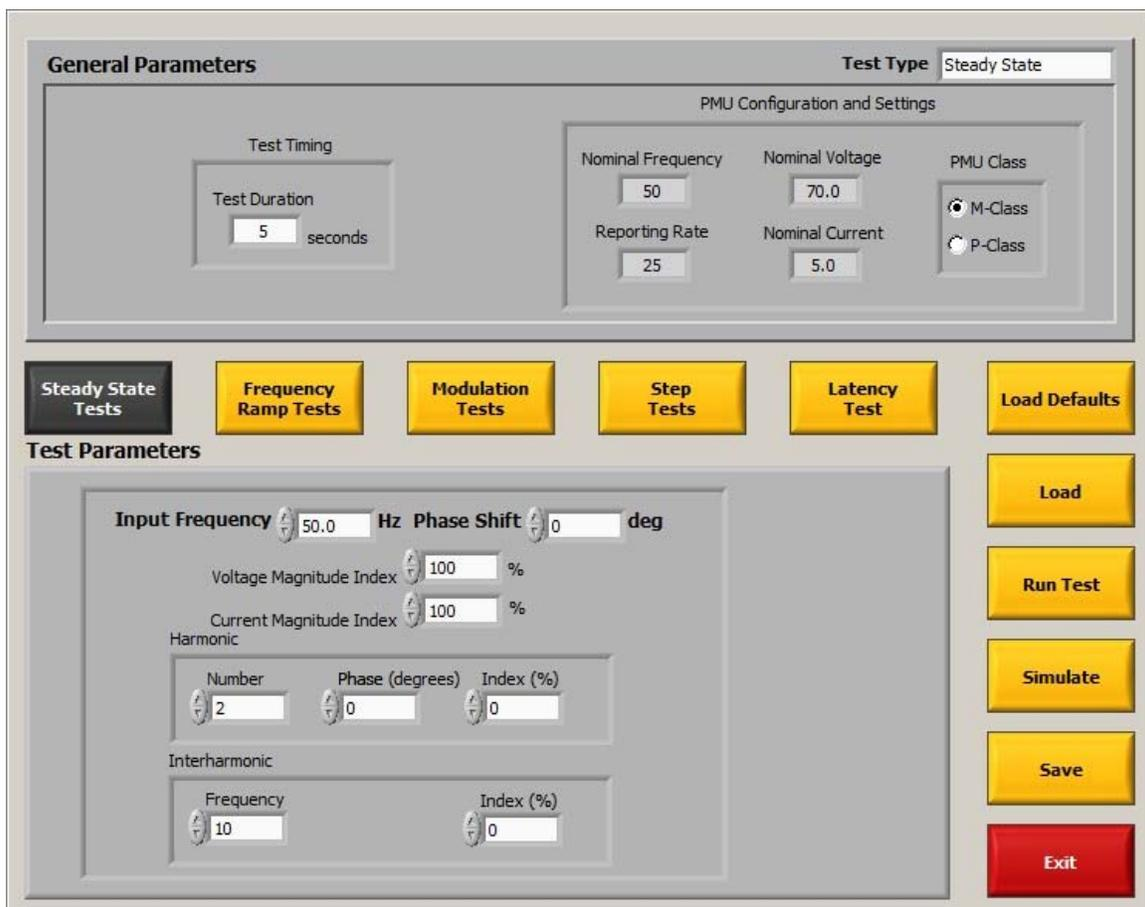

Figure 4-6. Test Menu
3. Click on **Run Test** to run a default steady state test on the connected UUT as shown in Figure 4-6.